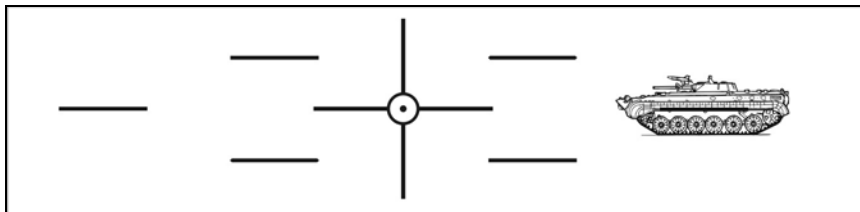

Figure 6-31. Far lead applied when a target and a Bradley are parallel and moving in opposite directions.
(5) If the Bradley and target are moving parallel to each other, in the same direction, and at the same speed, the gunner need not apply any lead. The vehicles' matching movement eliminates the need.
(6) If the Bradley and target are moving parallel but in opposite directions, the gunner doubles the initial lead (Figure 6-31). With HE ammunition, this can cause the gunner to run out of lead lines. If this happens, he changes to AP ammunition for that specific situation.